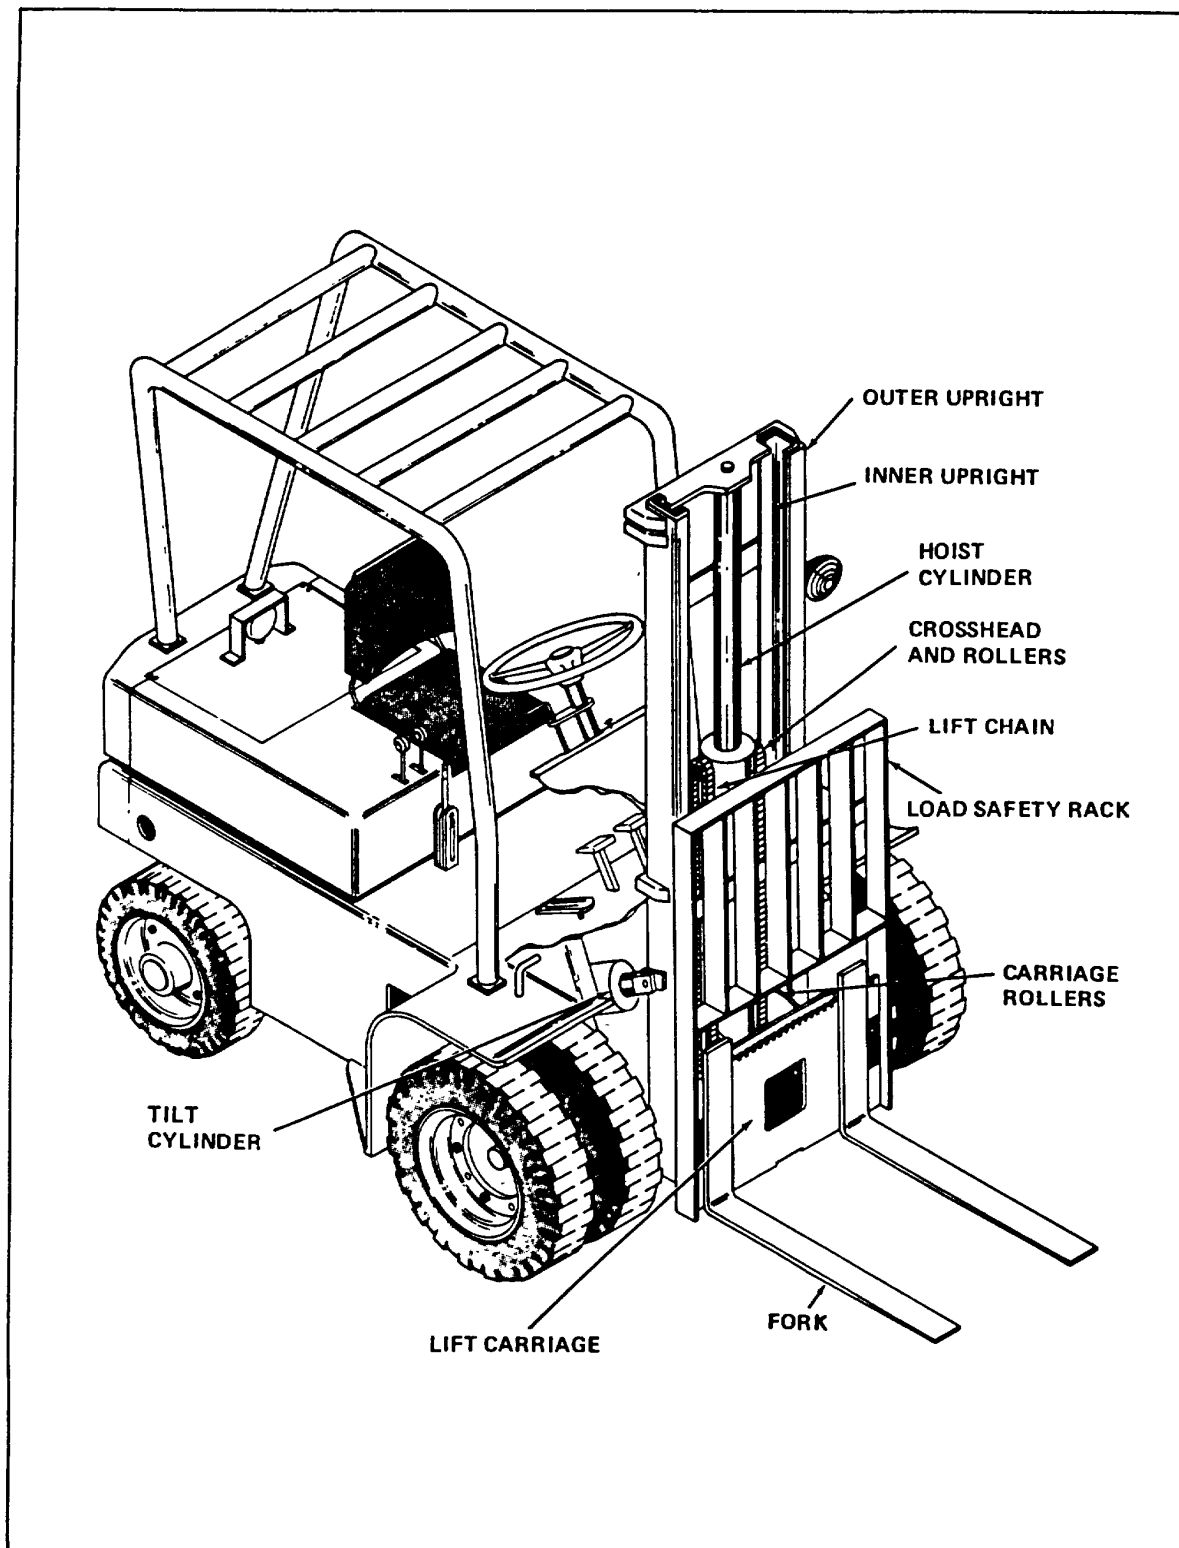

Figure 1-10. Uprights, Carriage and Fork
**1-30. UPRIGHT CARRIAGE AND FORK ASSEMBLY. (See figure 1-10).** The upright carriage and fork assembly consists of four main items which are described in the following paragraphs.